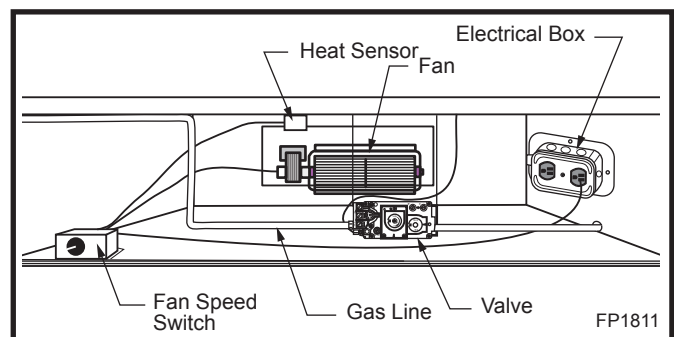

Fig. 60 FK24 fan placement.
1. Slide fan assembly from the left side into the fireplace opening, line up mounting holes with screw studs on back of fireplace and fasten with #10 - 24 hex nuts. (Fig. 60)